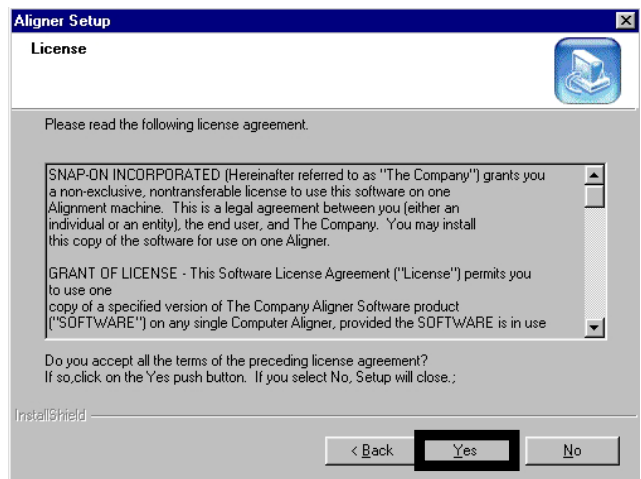

Figure 3-4
7. Read the License Agreement, if you agree click on **<YES>**. Clicking on **<NO>** will abort the installation process. (Figure 3-4)